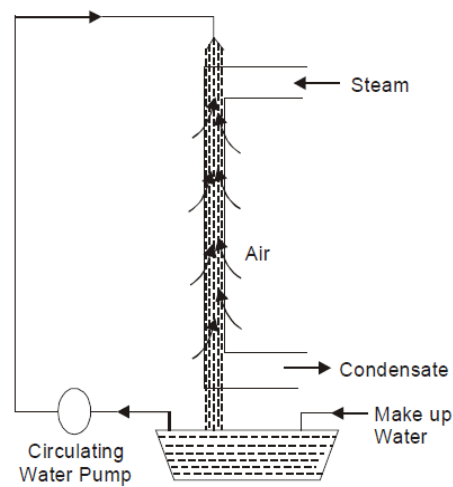

Fig. 1.12
- (iii) Evaporation condenser. In this condenser (Fig. 1.12)